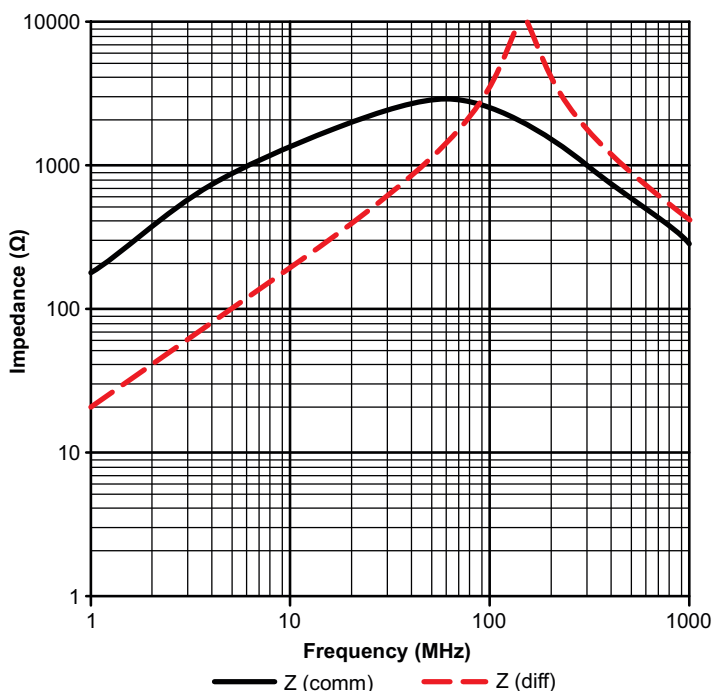

Figure 6: Common-Mode (CM) Choke Impedance
This inductor is selected to present a high impedance around the FM region. An example of a common-mode (CM) choke with a high impedance around the FM region is shown below in Figure 6.